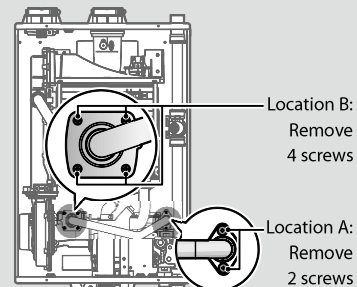

Figure 4. Screw Location
9. Use a Phillips screwdriver to remove the two screws at location A - the connection below the gas valve where it connects to the pipe. See Figure 4 for reference. Carefully separate the pipe from the gas valve.